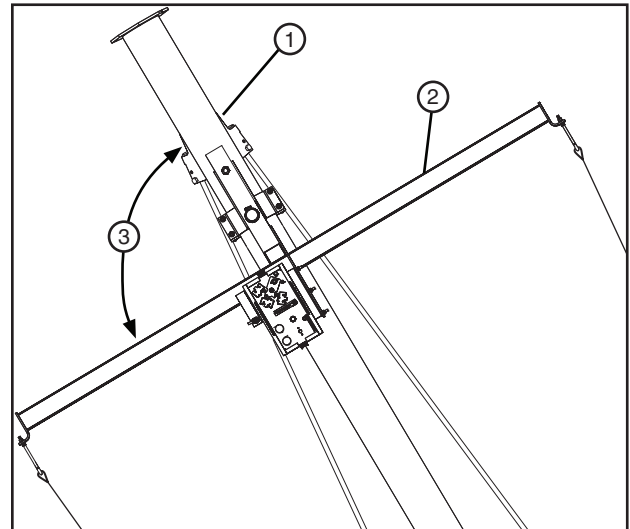

Figure 101-1 1. Span Pipe
6. Adjust the fixed end cable mount hook bolts until both the proper deflection of safety cable is achieved and the "T" bar is perpendicular (90 degrees) to the span pipe. See figure 101-1.